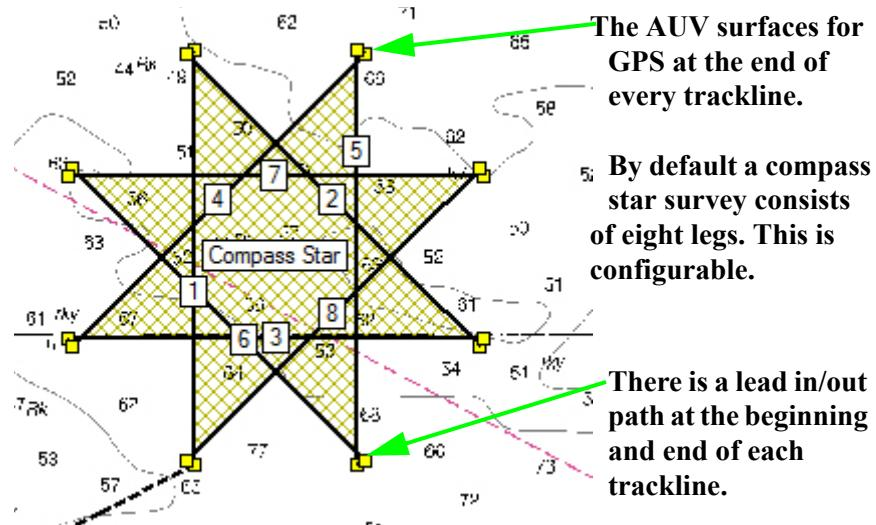

Figure 62: Compass Star Survey
3. Planner generates an eight-legged compass star starting at the first point (Figure 62).